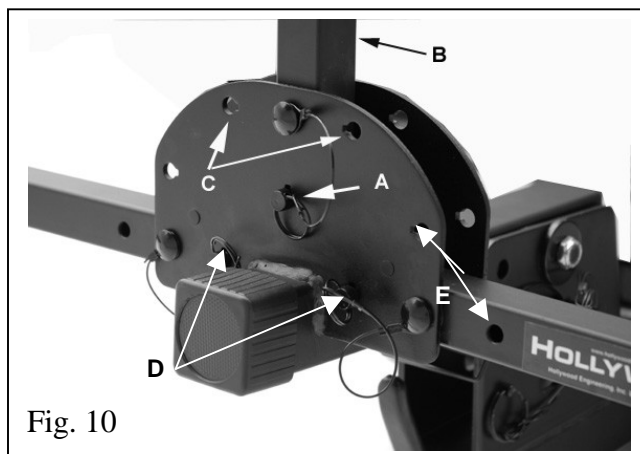

Fig. 10
To fold up the main beam, You must first fold down the vertical post. Refer to Fig. 10: Rotate and remove pin A, then rotate the post (B) and replace the pin in either holes C.
Described in section 5, fig. 10: